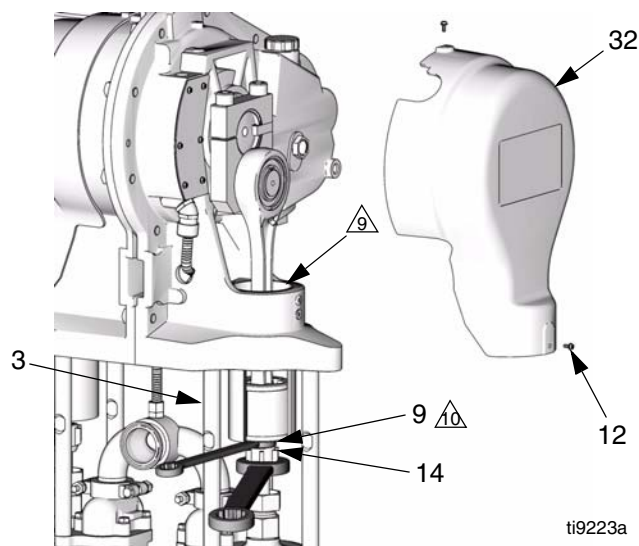

FIG. 9. Remove Coupling Nut
1. Jog the motor to bring the pump on the side being repaired to the bottom of its stroke. This provides access to the coupling nut (14).
4. Remove two screws (12) and the cover. FIG. 9 shows the cover (32) on the stand side; the motor side cover is (21).